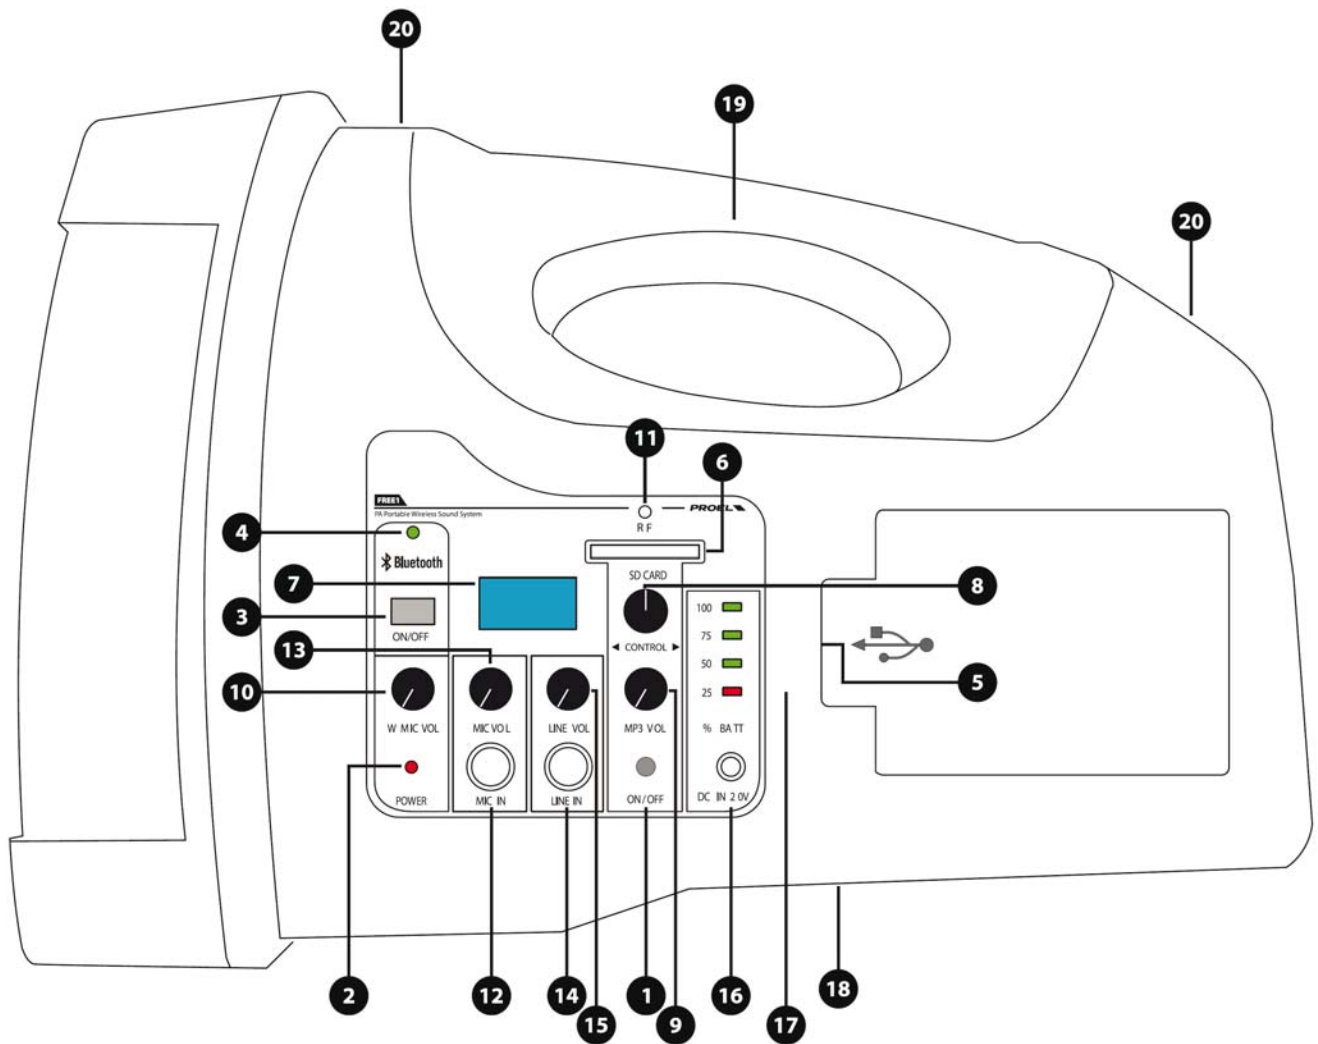

fig.1
With the key in ON position, the light indicator (fig.1, ref.4) flashes and the interface searches for the device, when the Smartphone is paired, the light indicator (fig.1, ref.4) turns OFF.
With the key (fig.1, ref.3) in the ON position, the BLUETOOTH LED flashes and the interface searches for the device, when the Smartphone is paired, the BLUETOOTH LED turns OFF.
After inserting input storage media (USB or SD card) containing music tracks in MP3, browse songs by turning the control to the right or to the left. Once you have found the song you want to play, press the button to start playback, at a second press of the button, the playback will pause, press again to resume. The display (Fig.1, ref.7) will show the song title and the progress of the playback.
Keeping the Control wheel rotated to the right or to the left, you will go respectively to increase or decrease the volume of your MP3 player (the display (fig. 1, ref.7) shows a level between 00 and 15)
When the battery is low, the “25%” red indicator LED (fig.1, rif.17) will be turned on, take care as soon as possible to recharge the battery by connecting the AC/DC 100-240Vac / 20Vdc supplied adapter to the dedicated 18V DC input (fig.1, ref.16).
Connecting the adapter to the mains, it will automatically begin the internal battery charging process and level indicator (fig. 1, rif.17) will start to light up cyclically.
The full discharge of the batteries could permanently compromise their functionality, therefore, avoid discharging the batteries completely during use by turning the FREE50V3 off as soon as the charging led (fig.1, rif.17) goes on.